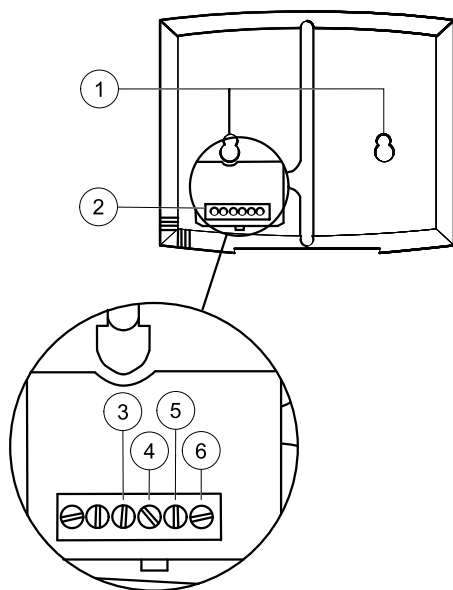

Fig. 16 Control panel wire connections
The control panel is delivered connected to the Corrigo control unit situated in the electrical connection box. Cable length is 10 m. In case the control panel needs to be detached from the signal cable it is possible to loosen the wires on the back of the control panel (figure 16).
2. If needed, drill two holes in the wall to hang the control panel (center to center: 60 mm) (pos.1, figure 16).